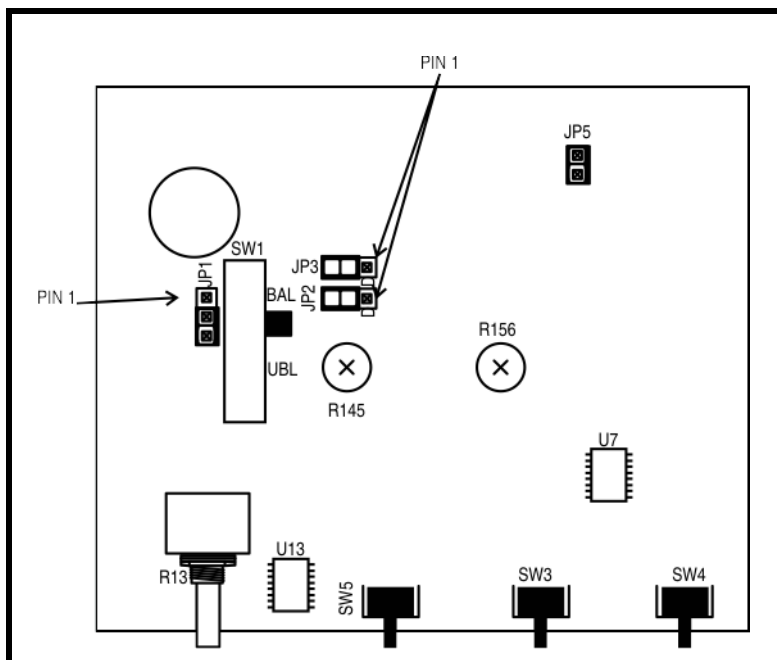

FIGURE 2. Internal Switches, Jumpers, and Adjustments
There are several switches, jumpers, and adjustments that affect operation. These are described below. To gain access to the switches, jumpers, and adjustments, disconnect all power and line connections. Remove two (2) screws from the top of each side and two (2) from the bottom of each side. Switch, jumper and adjustment locations are shown in Figure 2.
NOTE: Figure 2 shows a BP-2002 with the switches and jumpers in their factory default positions. SW5 does not exist on the BP-1002 board.